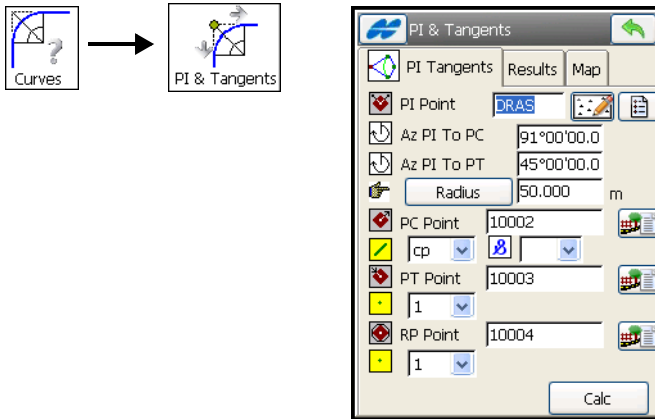

Figure 10-9. PI & Tangents
The PI & Tangents task computes the *PC* point, the *PT* point, and the center (*Radius Point*) of a curve, given the Point of Intersection (PI), the radius, and the azimuths from the PI point to the PC and PT points respectively. On the **PI & Tangents** screen, do the following (Figure 10-9 on page 10-9):
1. Select the initial data for the task and the names and codes for the result points (Figure 10-9).